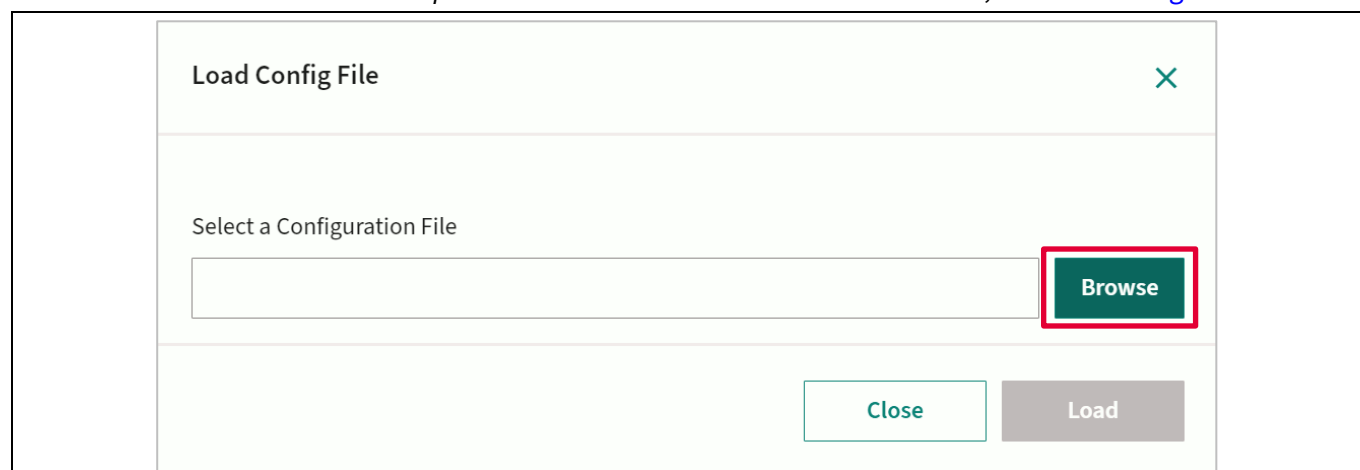

Figure 23 Browse to select the necessary configuration file
2. Click **Browse** and select the .xdp file that needs to be loaded onto the device, as shown in Figure 23